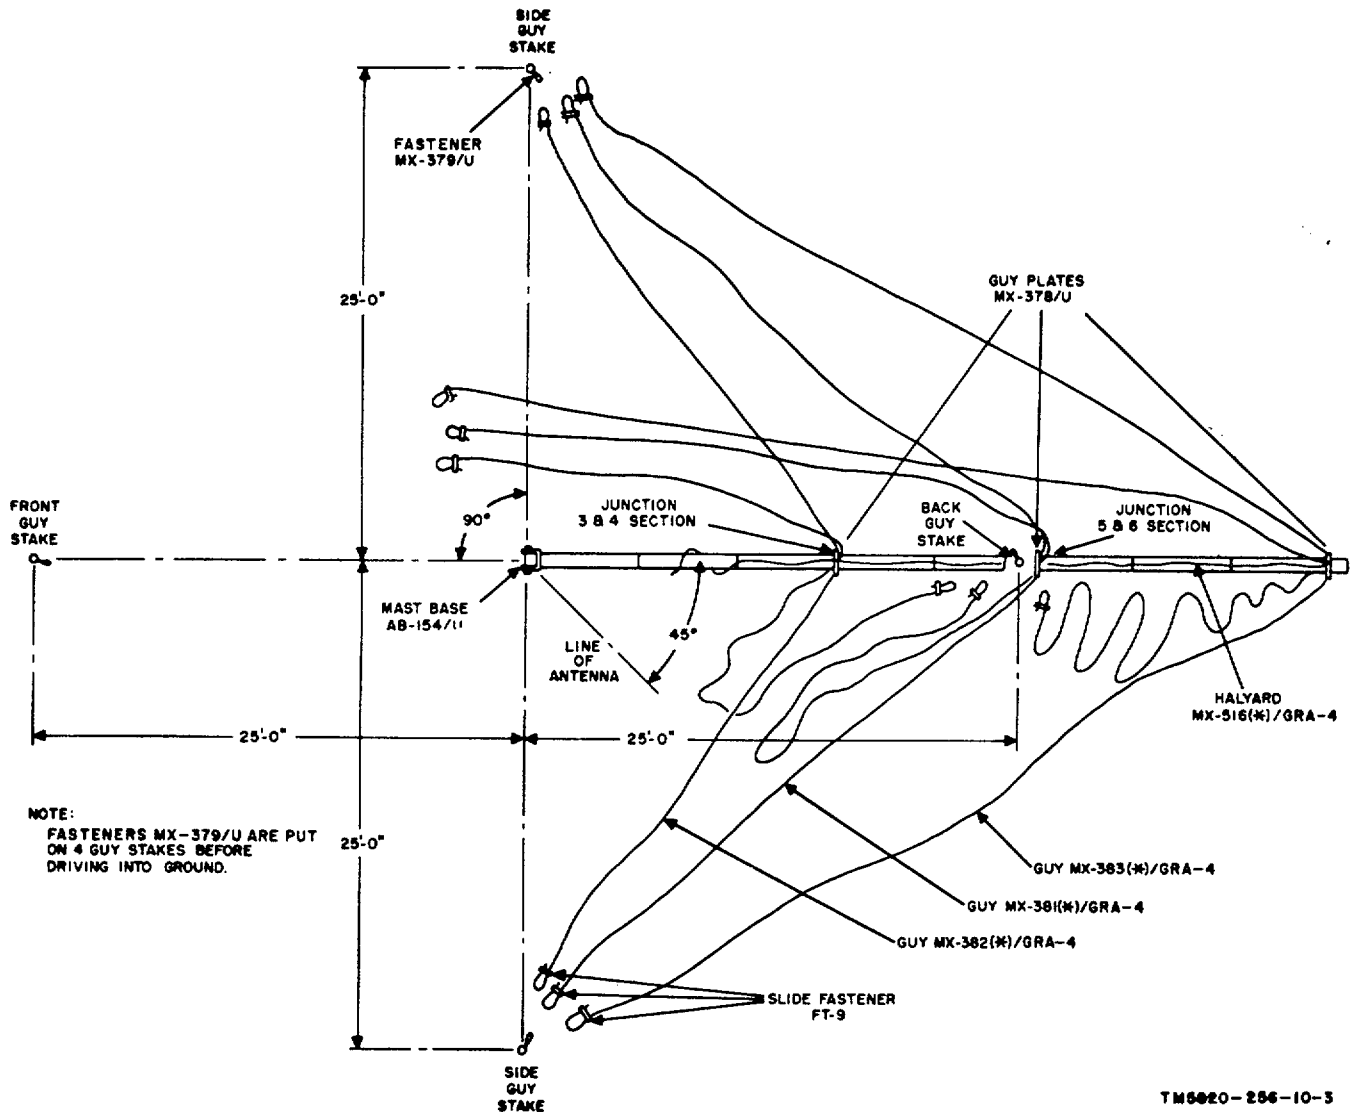

Figure 2-3. Preparing Mast AB-155(*)U for erector
(4) Slip a Guy Fastener MX-379/U over each guy stake before it is driven into the ground. Drive a guy stake (back guy stake) into the ground at the junction of the fifth and sixth MS44-(*) (25 feet from Mast Base AB-154/U). Place the front and side guy stakes 90° apart as shown in figure 2-3. Use a guy rope to measure the distance between the mast base and the front and side guy stakes. If the ground is soft or sandy, use the wooden stakes instead of the aluminum stakes, and loop the guys over the stakes.
(5) Fasten four Guys MX-383(*)/GRA4 to top Guy Plate MX-378/U, four Guys MX381(*)/GRA-4 to center Guy Plate MX-378/U, and the remaining four Guys MX-382(*)/GRA4 to bottom Guy Plate MX-378/U. Fasten the guys by snapping the fastener at the end of each guy into one of the four holes located 900 apart on the MX-378/U. Next, carry the free ends of the three back guys to a side guy stake to measure their correct length, Fasten these guys to the back guy stake with Guy Fastener MX379/U. Connect both sets of side guys to their respective side guy stakes, and remove slack by adjusting Slide Fastener FT-9 (fig. 2-3). Do not overtighten because the mast may bend. Keep the three front guys together, and stretch them along the mast toward the front guy stake.